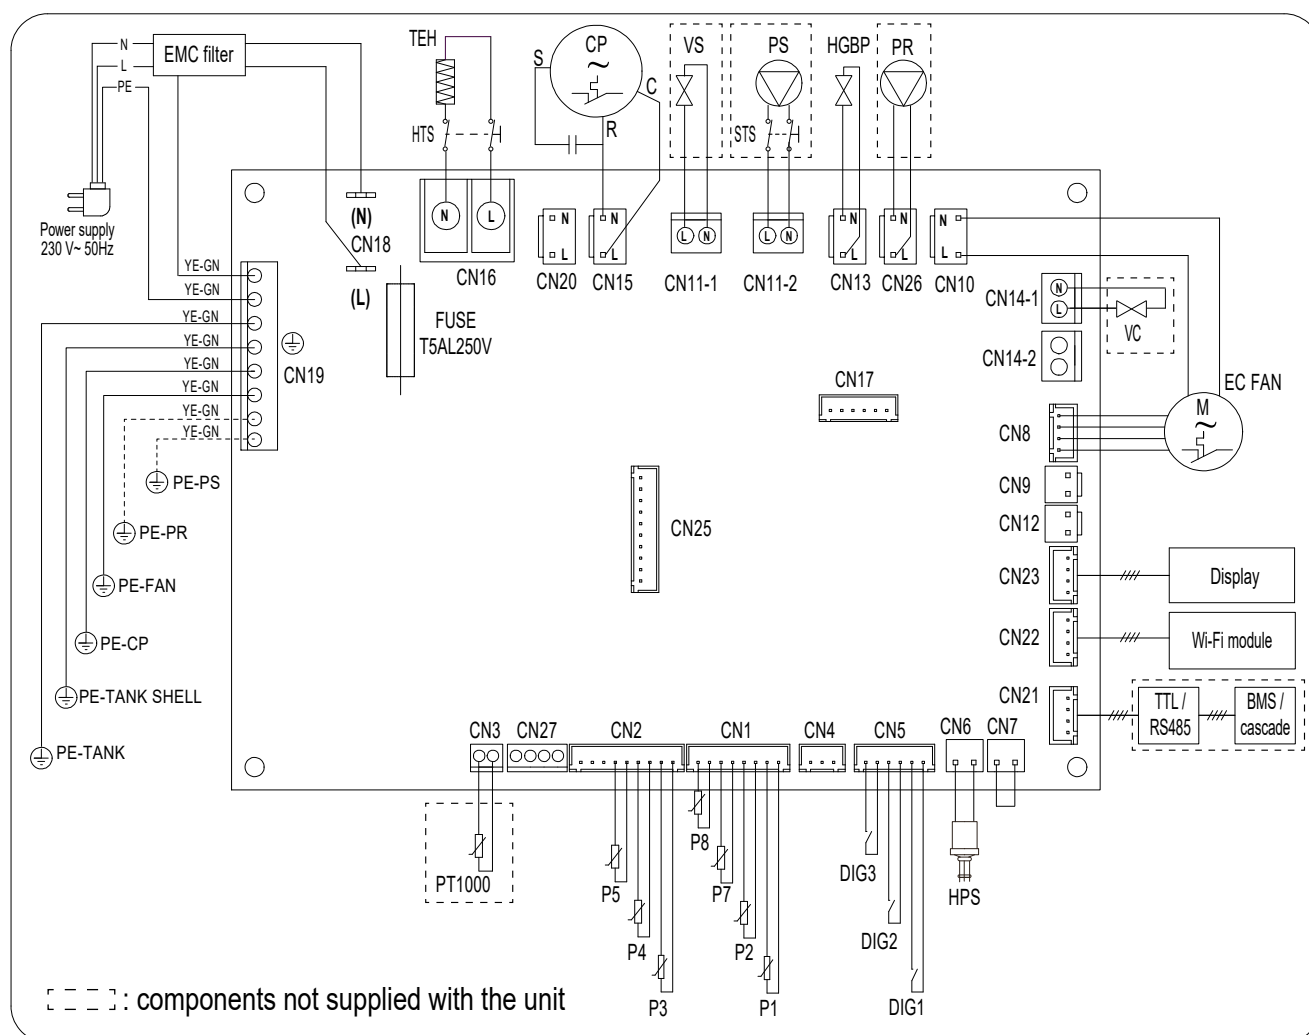

fig. 72 - Wiring diagram of the equipment
- 1) The recirculation pump (part.16) must be connected to terminal CN26 of the master motherboard (ref. "fig. 72 - Wiring diagram of the equipment" on page 123).
- 2) Fit a normally open solenoid valve (part. 19) for each unit in the cascade. The valve must be connected to terminal CN14-1 (ref. "fig. 72 - Wiring diagram of the equipment" on page 123) of the mother board of each unit.